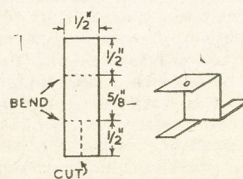
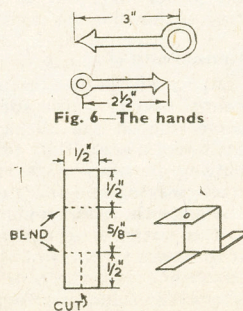

Fig. 7—The Catch
Fig. 5—Section showing mechanism
to be released in one particular place only. It will be seen from Fig. 5 that one disc requires a centre hole to take the larger spindle, and one a hole for the smaller.
Before assembling the cigarette compartment inside the case, fit on the spindles in the manner shown at Fig. 5. A hole is drilled in the front of the compartment, through which the thin bolt goes. The order for the rest is then: small nut, washer, another small nut, one disc, small nut, washer, and then the larger piece of spindle.
Fig. 7 shows how the catch is made. It is held to the lid by the same bolt that holds on a little knob, and it engages in the slits cut out of the discs, as shown at Fig. 5.
It will be seen from Fig. 7 that the two discs will not be exactly level with each other, but one turned on slightly further, to allow both sides of the catch to be released at once. When this has been done, tighten up the nuts on either side of the discs, to hold them firmly in position.
A piece of plywood, $\frac{1}{8}$ in. thick is cut as dimensioned in Fig. 5. When the main frame (B) is glued to it, there will be a $\frac{1}{4}$ in. rebate all round, as clearly seen in Fig. 4. In Fig. 2, a corner of the frame (B) has been cut away to show the construction.